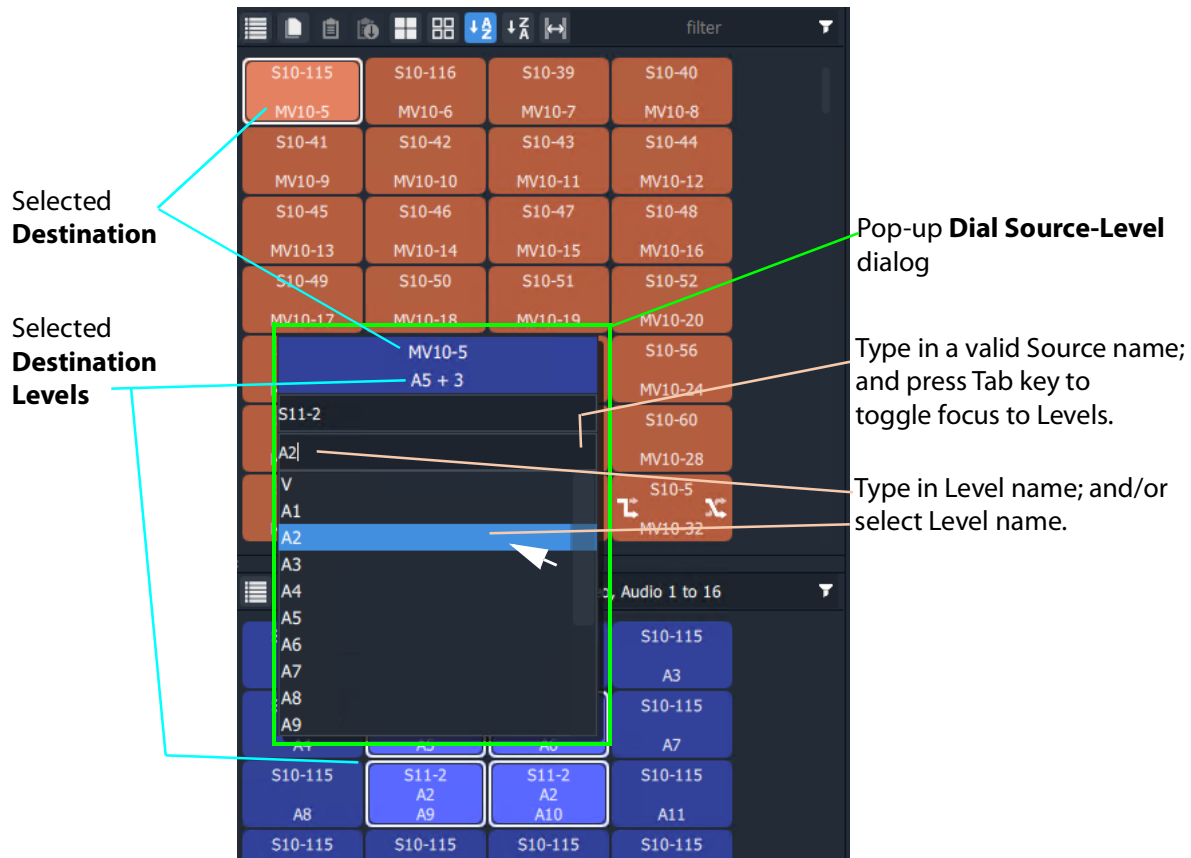

Fig. 5-24: Dial Source-Level Dialog
A default **Dial Source-Level** dialog pops up and shows the currently-routed Source name and Level. (See Figure 5-24.)
- 6 When the required (and valid) Source name is in the upper text box of the dialog, press the Tab key. (See Figure 5-24.)